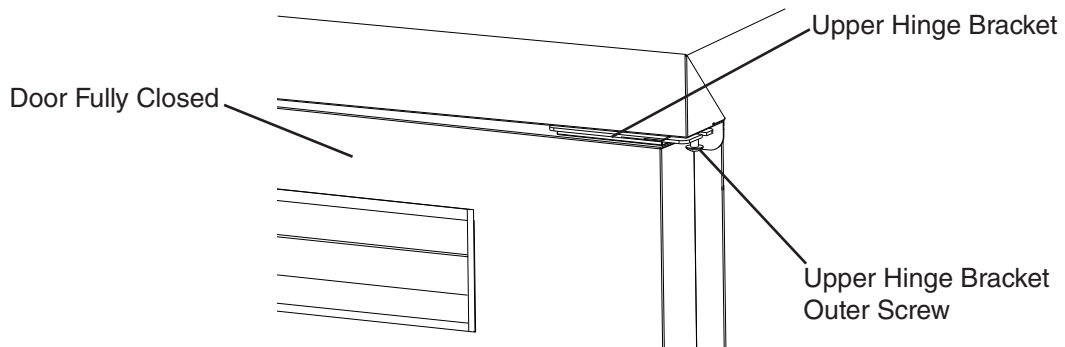

Fig. 32
18) Close the door and tighten the upper hinge bracket outer screw. See Fig. 32.